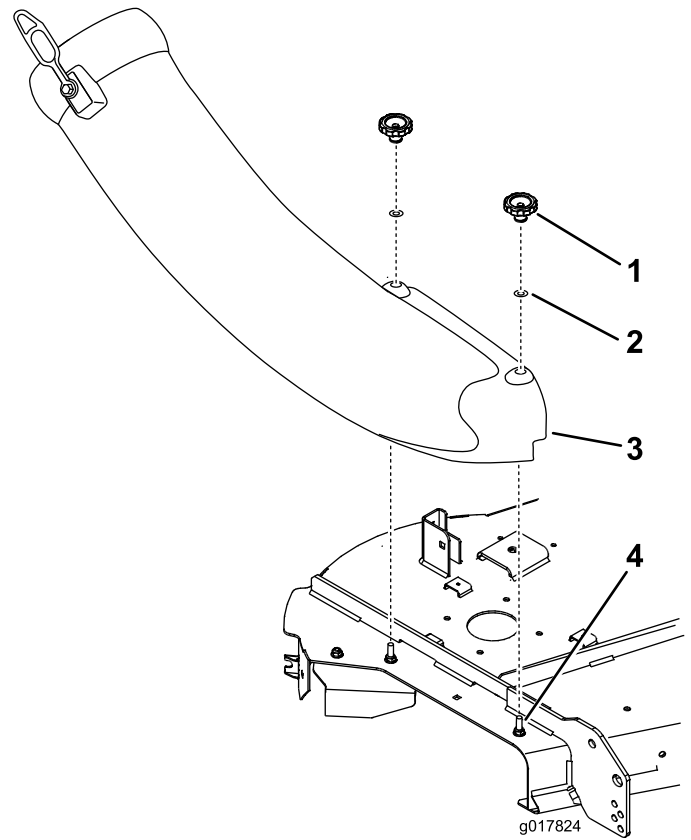

Figure 21
- Align the holes in the chute and install it onto the bolts. Secure the chute to the mower deck with the two knobs and flat washers (5/16 inch) (Figure 21).